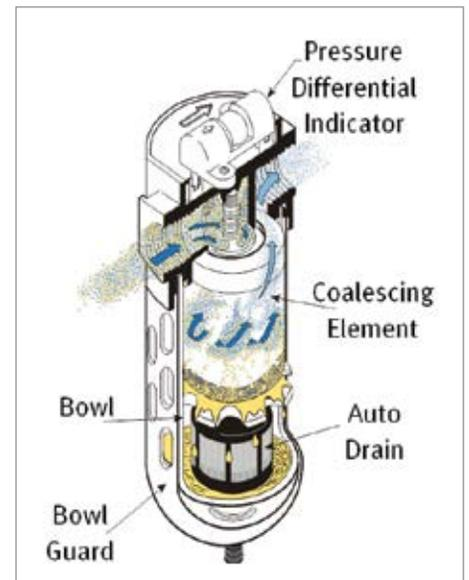

Figure 3: Coalescing filters remove sub-micronic particles, including condensate and oil, which flow off and collect in the filter bowl.
- Fine and micro filters (Figure 3) remove particles smaller than 1 micron, down to 0.01 micron. The air flows through the filter cartridges from the inside to the outside. Solid particles get stuck in the filter cartridge, clogging it up. Fluid particles, such as condensate or oil, coalesce or attach to larger droplets, which flow off and are caught in the filter bowl. It is important to cascade your filters to avoid prematurely clogging the filter element. For example, if 1-micron filtration is needed, it is recommended to use a 5-micron filter upstream so that the 1-micron filter does not become clogged with larger particles.